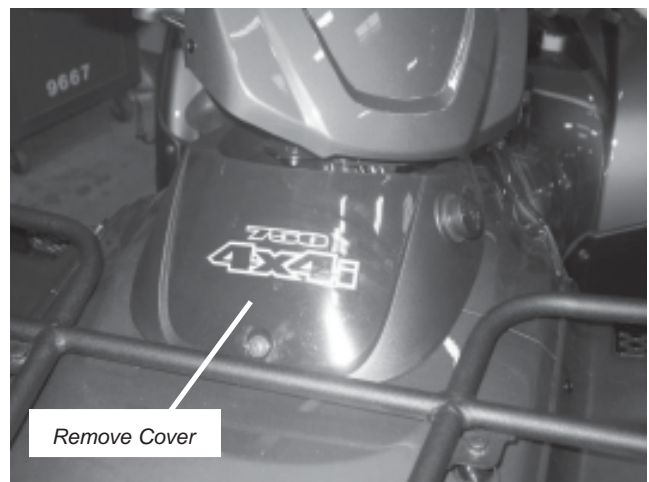

Figure 14
- d. Remove cover under handlebars shown in Figure 14.